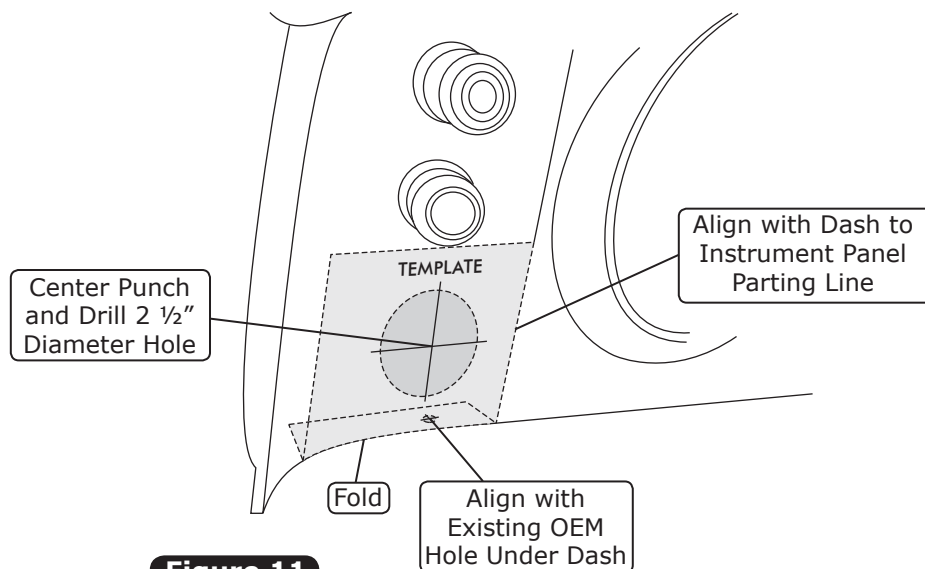

Figure 11
1. Cut out the driver side louver template provided on Page 31. Place the template onto the dash, aligning the right side of the template against the dash to instrument panel parting line, and then folding the bottom under the dash, and aligning it with the existing OEM hole as shown in Figure 11, below.
2. Once the template is aligned correctly, use a center punch to mark the hole on the dash. Once the center of the hole is located on the dash, remove the template. Using a 2 1/2" hole saw, cut a hole in the dash for the driver side louver (See Figure 11, below).